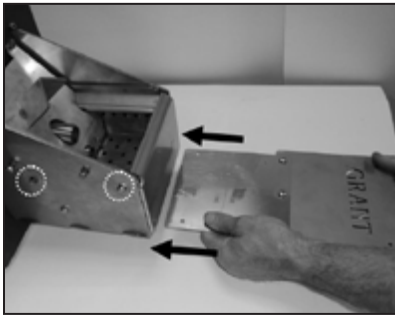

Figure 11-13: Fitting brazier clearance gauge
- Insert the brazier clearance gauge plate (supplied with the boiler) between the brazier chassis and brazier base assembly. Refer to Figure 11-13.